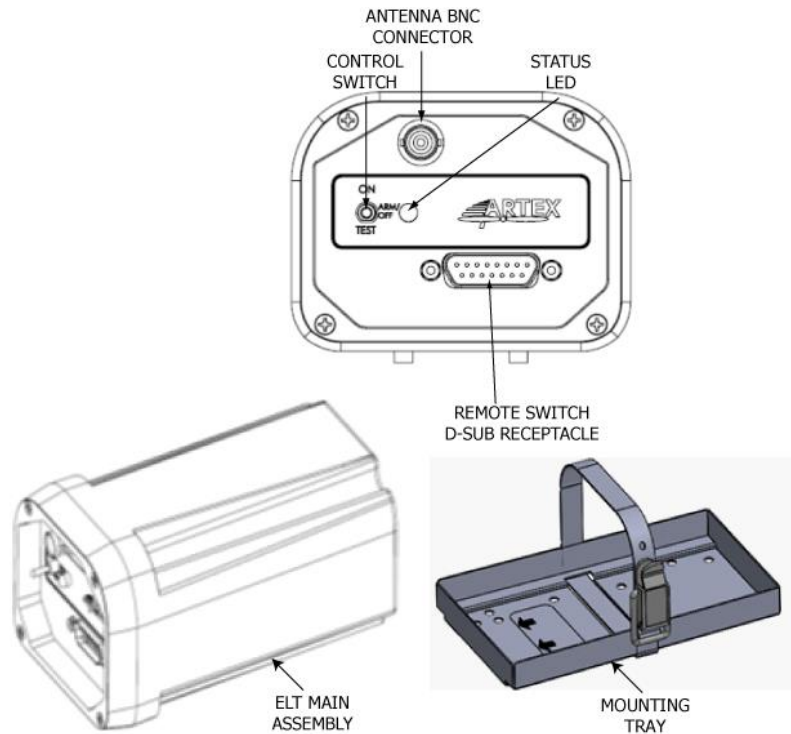

Figure 1 ARTEX ELT 345 Beacon and Mounting Tray
- 1) The ARTEX ELT 345 housing assembly is made of high impact, fire resistant, polycarbonate-polyester plastic. The tray is fabricated from aluminum, with a stainless steel holding strap. (see Figure 1).